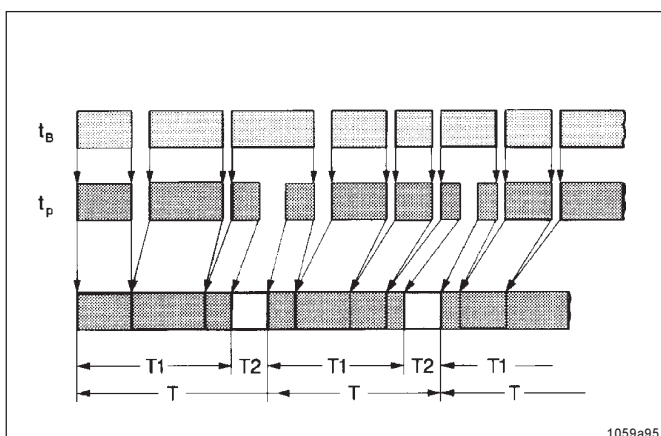

Fig. 6 - Time sequence diagram
- automatically controls the sequence of the pause and operating times of the 203 central lubrication pump as a function of the machine working hours  $t_B$  (Fig. 6) and as a function of the machine contact (external contact).
- A lubrication cycle consists of one pause time and one operating time. Once the pause time has elapsed, the operating time starts to run. This lubrication cycle is repeated permanently after the machine has been put into operation. Refer to Fig.6.